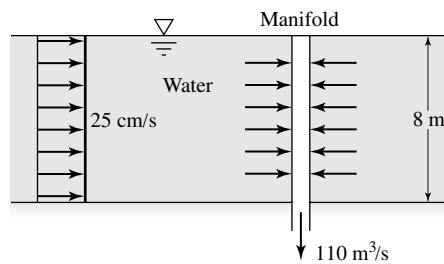

Fig. P4.72
**4.72** A coastal power plant takes in cooling water through a vertical perforated manifold, as in Fig. P4.72. The total volume flow intake is  $110 \text{ m}^3/\text{s}$ . Currents of  $25 \text{ cm/s}$  flow past the manifold, as shown. Estimate (a) how far downstream and (b) how far normal to the paper the effects of the intake are felt in the ambient  $8\text{-m-deep}$  waters.